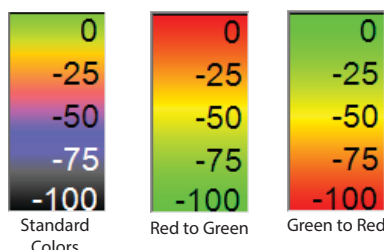

**Figure 3-26.** Power Level Color Control
**Color Map:** Click to change the power level color scheme as shown in Figure 3-26.